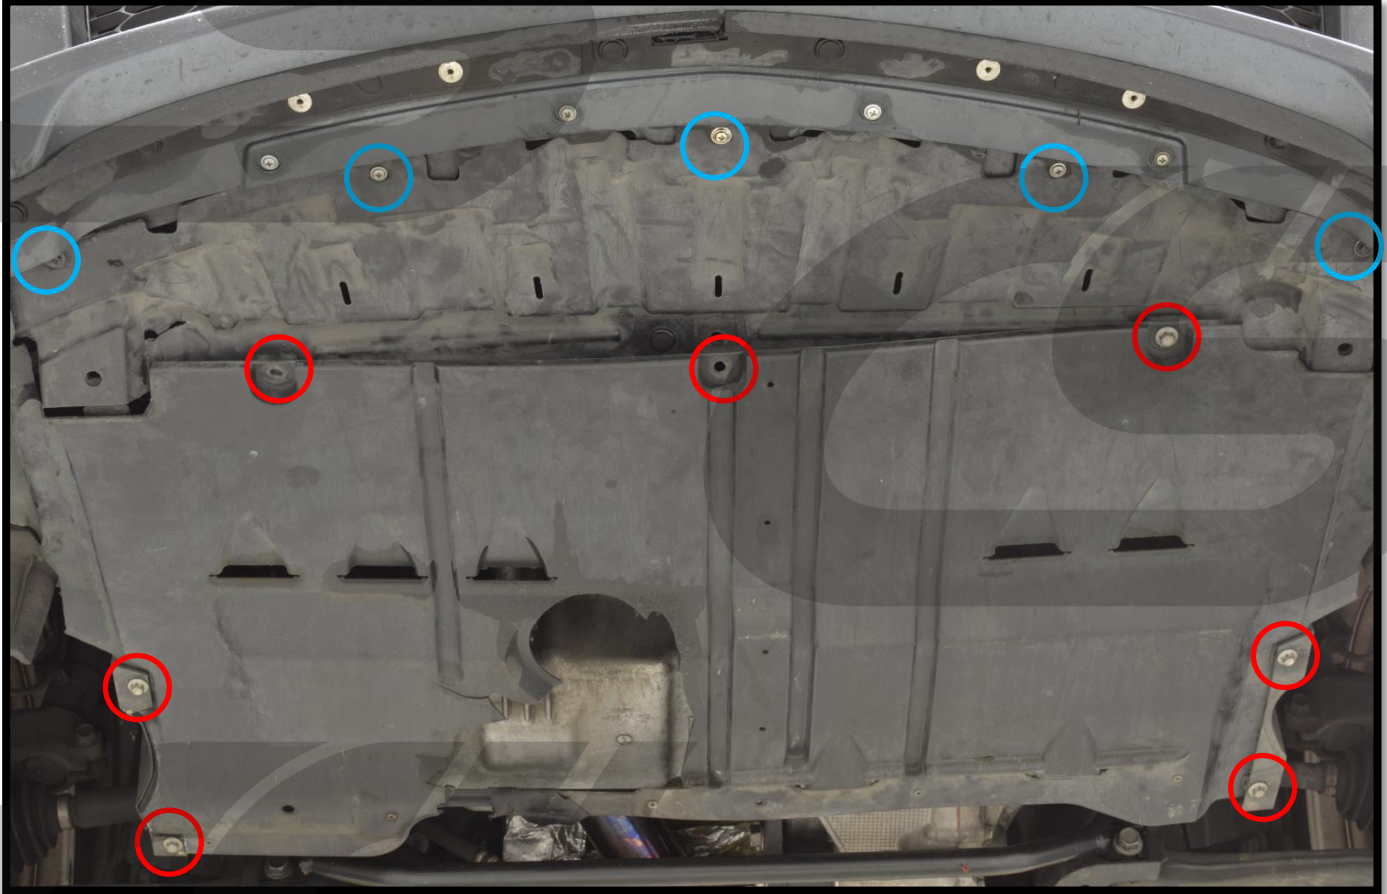

Figure 2b
- d) Using a 10mm socket, remove seven (7) bolts attaching the rear section of the plastic undertray. Circled in red in Figure 2b. Then remove the rear section of the undertray.
- e) Using an 8mm socket or phillips screwdriver, remove seven (7) screws attaching the front section of the undertray to the front bumper. Circled in blue in Figure 2b. Then remove the front section of the undertray.